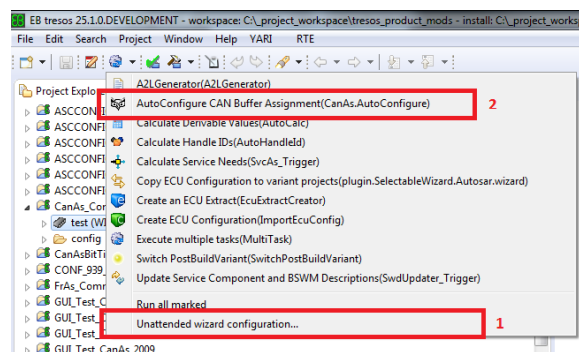

Figure 4.10. Starting the unattended wizard for the automatic CAN buffer assignment
4. Select the menu item **Autoconfigure CAN Buffer Assignment(CanAs.AutoConfigure)** as depicted in Figure 4.10, “Starting the unattended wizard for the automatic CAN buffer assignment” if you want to launch the automatic CAN buffer assignment for the selected project.